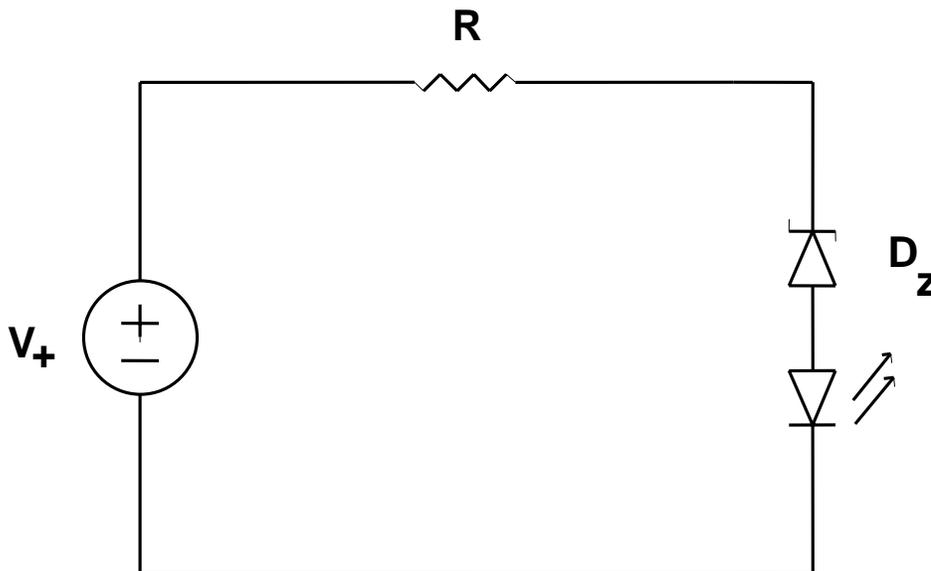

Figure 2. Zener diode voltage indicator using an LED
- n. Place an LED between the anode of the zener diode and ground as shown in Figure 2. (Don't forget to remove the short circuit from the previous section). Vary the input voltage and record the voltage at the power supply for which the LED begins to glow.